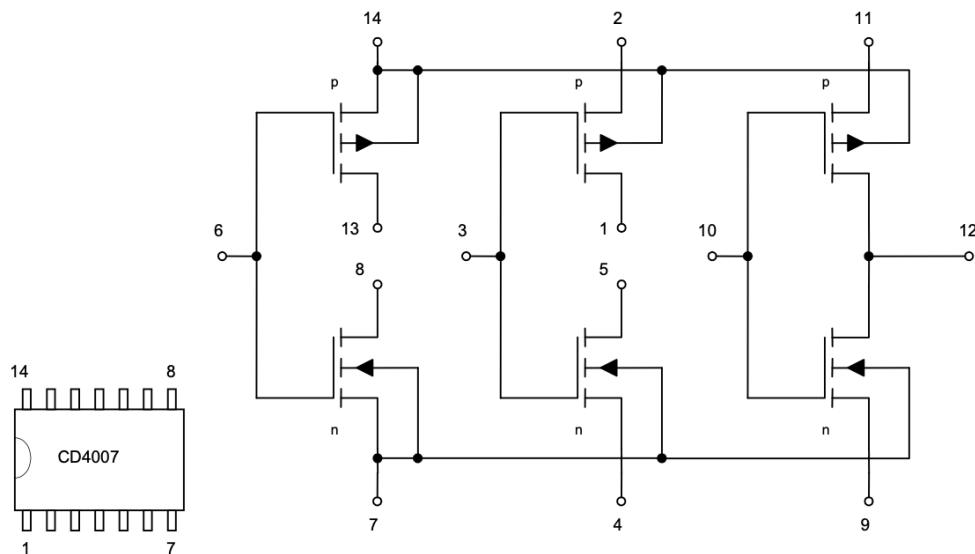

Figure 1: Internal schematic of the CD4007 integrated circuit.
- Plotting the current–voltage characteristics of the n-MOSFET and p-MOSFET transistors that form complementary pairs in the CD4007 integrated circuit (Fig. 1).